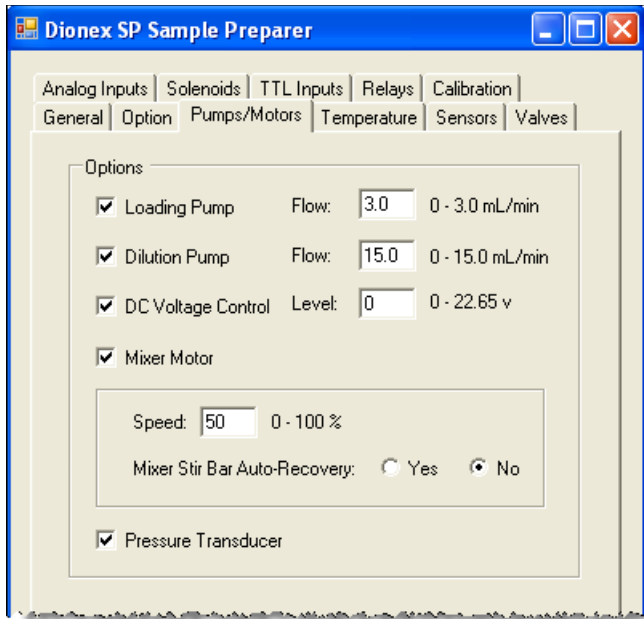

Figure 3-44. Chromeleon Server Configuration: Pumps/Motors Page
10. Open the Chromeleon Server Configuration program and open the SP **Properties** dialog box. The **Pressure Transducer** check box is enabled on the **Pumps/Motors** page (see Figure 3-44).
9. Open the Chromeleon Server Configuration program and open the SP **Properties** dialog box. The **DC Voltage Control** check box is enabled on the **Pumps/Motors** page (see Figure 3-44). Enter the default voltage level to use when the DC voltage control is on.
9. Open the Chromeleon Server Configuration program and open the SP **Properties** dialog box. The **Mixer Motor** check box is enabled on the **Pumps/Motors** page (see Figure 3-44). Enter the default percentage of power (from 0% to 100% of maximum) delivered when the PWM power output is on.